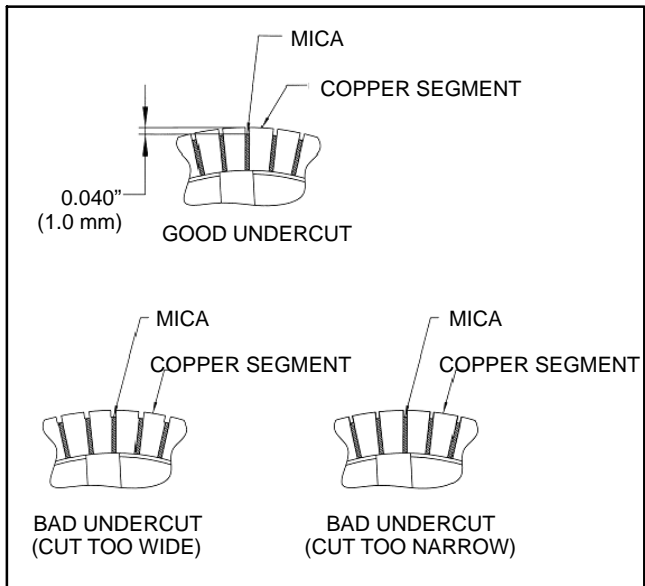

Figure 60
4. After the commutator is turned, undercut the mica to a uniform depth of 0.040" (1.0 mm). Be careful to only cut the mica and not increase the slot width (Fig. 60).